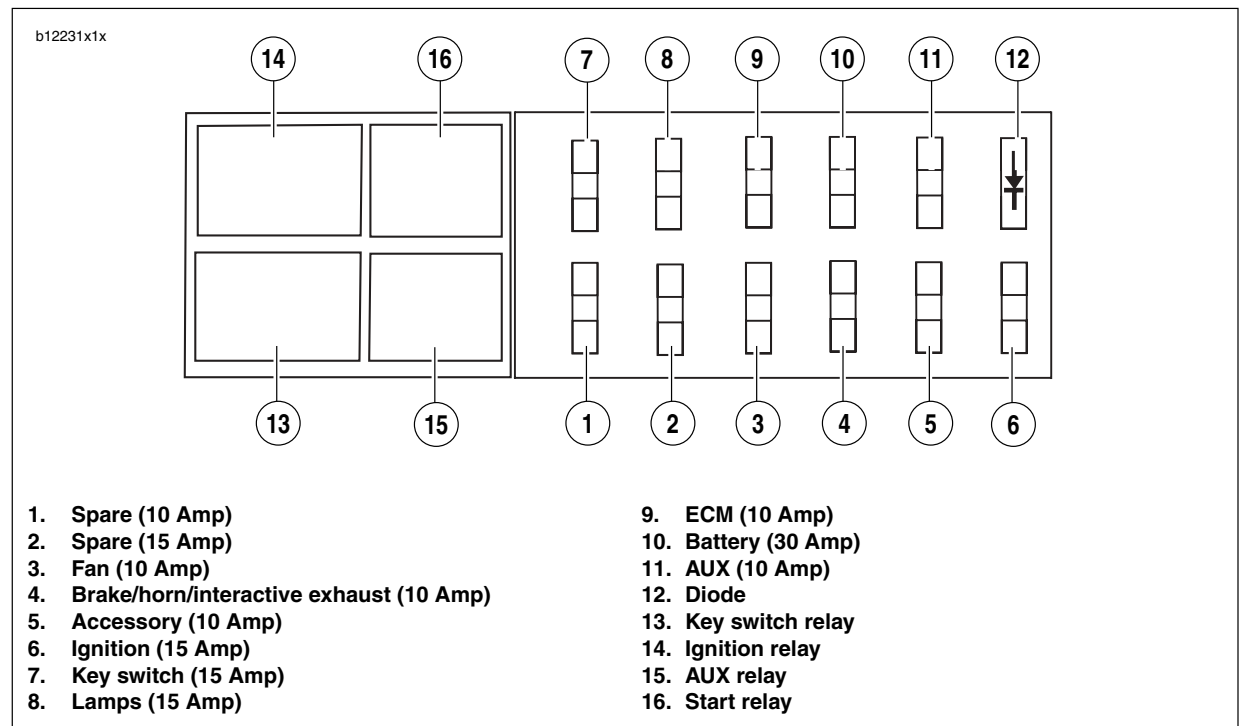

Figure 5-5. Fuses, Relays and Diode
1. See Figure 5-5. Locate starter relay. The relay is attached to the relay block under the seat.